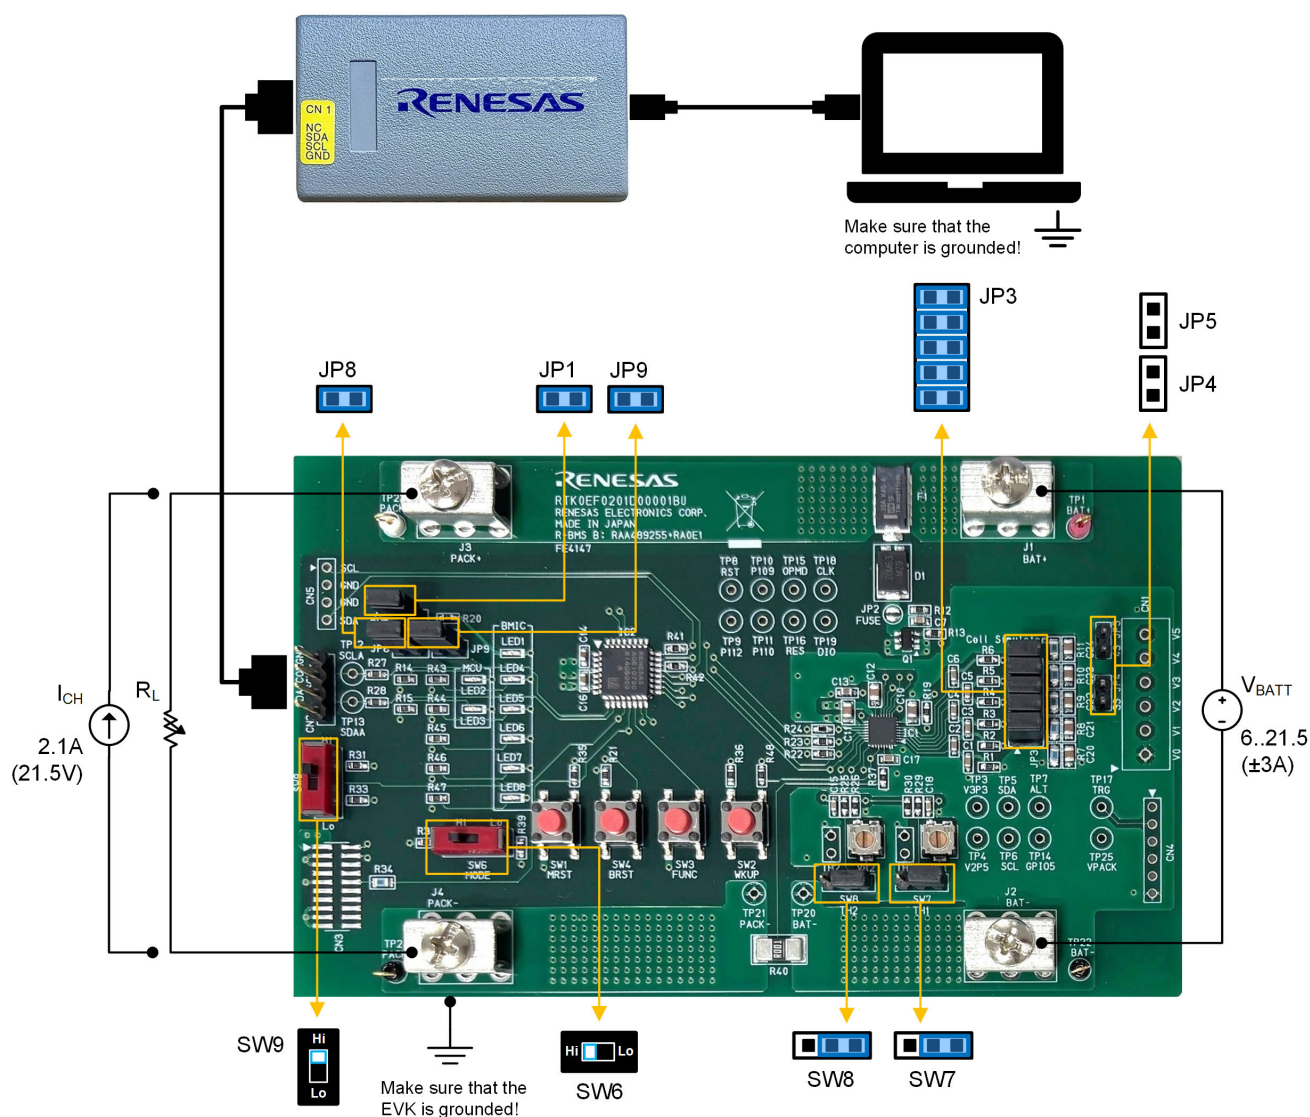

Figure 4. R-BMS B for the RAA489255 Test Setup for 5S using the Integrated Cell Emulator
Figure 4 shows the test setup when using the integrated battery emulator. V_{BATT} is a four-quadrant DC power supply powering the reference board. It is connected between J1 (BAT+) and J2 (BAT-). Ensure that all jumpers are installed on header JP3 and no jumpers are installed on JP4 and JP5 to enable the cell emulator for 5 cells in series (see Figure 4). Jumpers JP1, JP8 and JP9 must be installed to enable all LEDs. The jumpers on the thermistor selection headers SW7 and SW8 must be installed on the right to short the middle and the right pins and connect the variable resistors to the thermistor inputs of the BMIC. Selector switches SW6 and SW9 must be set to Hi. Connect the DC electronic load R_L or the DC power supply I_{CH} (charger) between J4 (PACK-) and J2 (BAT-).
The R-BMS Monitor Tool GUI connects to the reference board using the USB SMBus converter (see Figure 4). To use this converter, the USB SMBus interface driver must be installed. To install the tool, complete the following steps:
2. Connect the RTK0EF0201D00001BU reference board and USB SMBus Converter interface adapter as shown in Figure 4. Ensure that all jumpers are installed as shown in the figure and all switches are in the correct position.
- d. Set the electronic load to consume 2.1A, enable its output and connect it to the PACK- and BAT- terminals of the reference board as shown in Figure 4.
- e. Configure the I_{CH} power supply to source 2.1A with a voltage limit of 21.5V, enable its output and connect it to the PACK- and BAT- terminals of the reference board as shown in Figure 4.